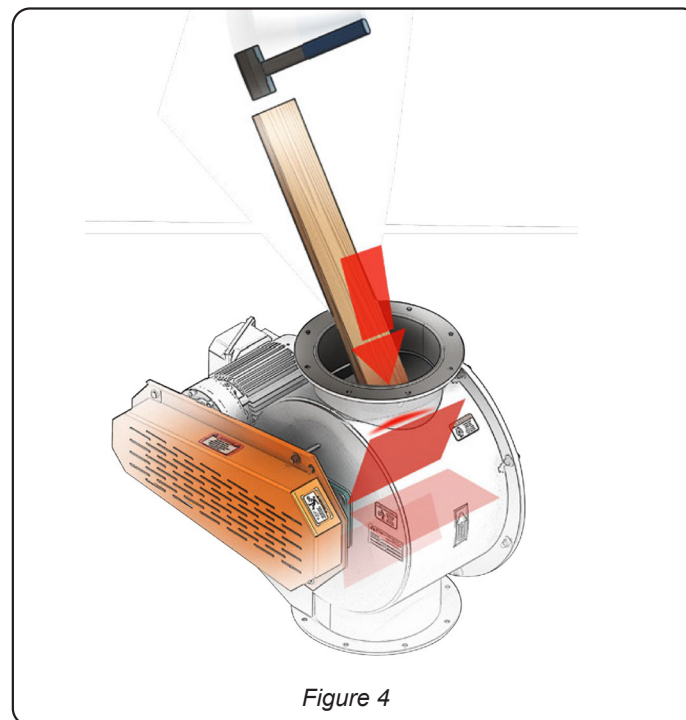

Figure 4
- With the airlock chain not attached, use a soft probe (wood block or brass rod) and mallet to turn the rotor (Figure 4). If the rotor turns freely, the inspection is complete. Refer to the maintenance section of this manual if chain needs disconnected.